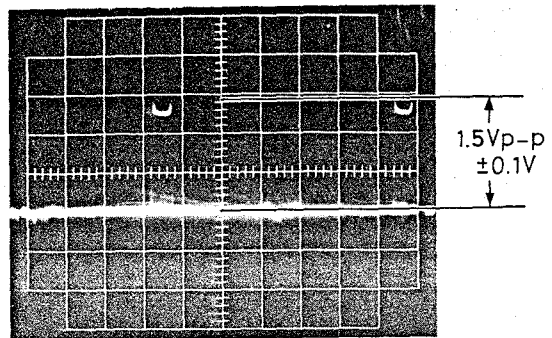

Fig. 4-13 Beam Current Adjustment
6. Adjust BEAM control (RT1324) until the waveform is clipped at $1.5V_{p-p} \pm 0.1V$ (Fig. 4-13).